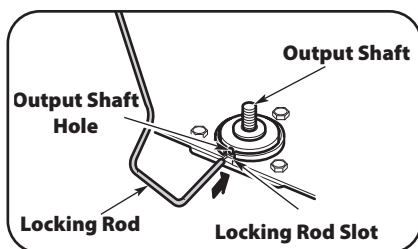

Figure 2
1. Align the output shaft hole with the locking rod slot. Insert the locking rod through the locking rod slot and into the output shaft hole. See Figure 2.
4. Align the output shaft hole with the locking rod slot. Insert the locking rod through the locking rod slot and into the output shaft hole. See Figure 2.